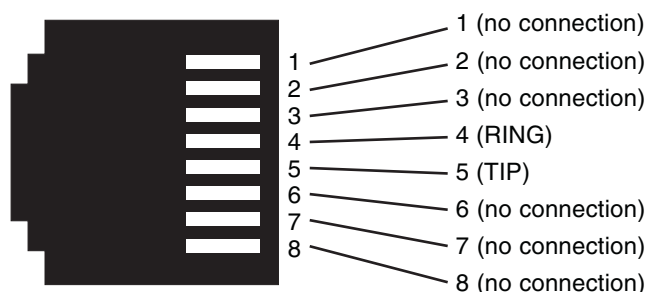
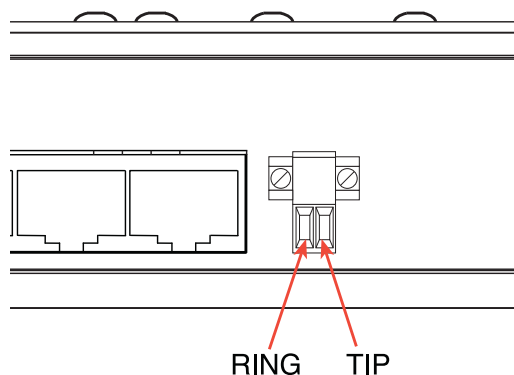

Figure 4. CL1214E (RJ-45) twisted pair line interface
Figure 5. CL1214E (Terminal Block) twisted pair line interface
2. The CL1214E is equipped with an RJ-45 interface jack (figure 4) or terminal block (figure 5) that can be used on the CopperLink interface. The CopperLink interface is a two-wire interface. Observe the signal/pin relationships on the CL1214E's CopperLink interface jack.
The RJ-45 connector on the CL1214E's twisted pair interface is polarity insensitive and is wired for a two-wire interface. The signal/pin relationship is shown in figure 4.